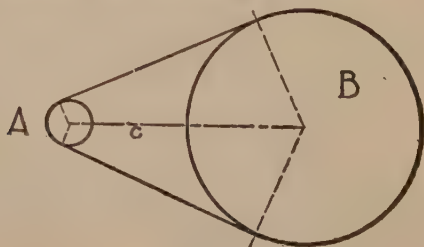

Figure 6
45. From figure 6, show why formula 24 does not apply to cases in which the diameter of one pulley is considerably smaller than the other.